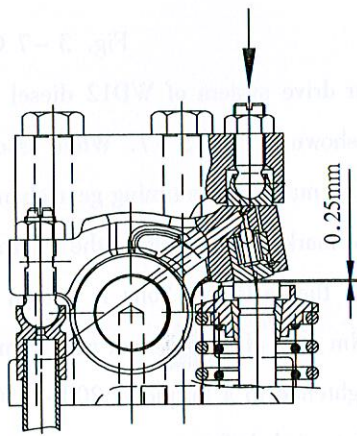

Fig. 3-6 Cold-state exhaust
(3) Insert the feeler gauge of 0.25mm again between the piston of valve rocker arm (5) and the tip of exhaust valve stem or valve stem cap, by adjusting the adjusting bolt assembly (2), adjust the valve tip clearance to 0.25mm, and tighten the check nut, as shown in Fig. 3-6.